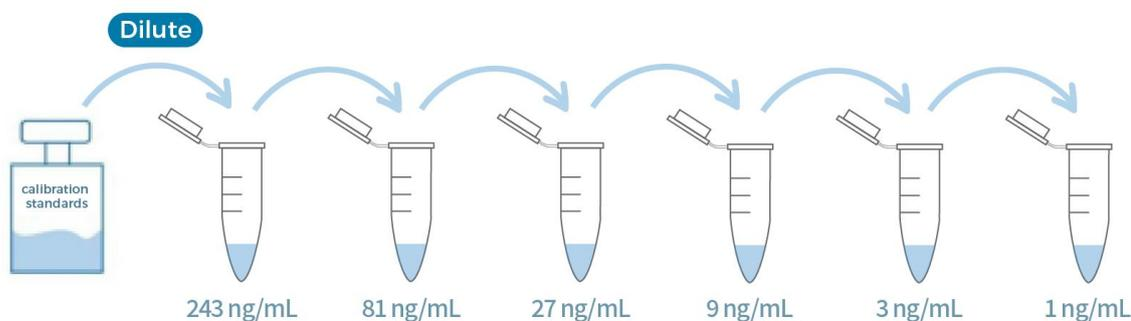

Figure 3. Graphic scheme of Vero HCP Calibration Standard Solutions
- Prepare Vero HCP Calibration Standard Solutions as indicated in Fig 3 and Table 3.